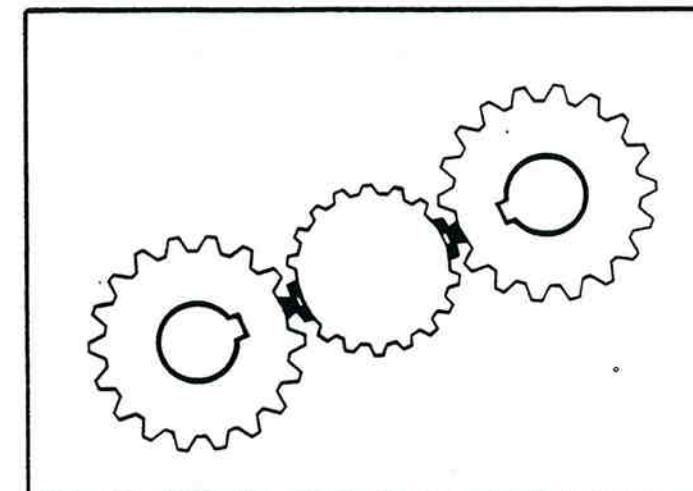

Figure 13-83. Countershaft Drive Gear Teeth Meshed With Main Drive Gear Teeth For Proper Timing.
1. When installing bearings on the left countershaft, mesh the marked countershaft drive gear tooth between two marked teeth on the main drive gear. Repeat the procedure when installing the right countershaft bearings (see figure 13-83).